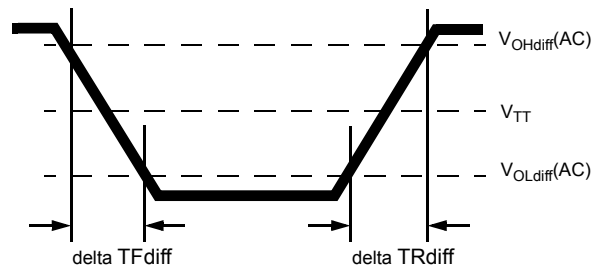

Figure 183 — Differential Output Slew Rate Definition
With the reference load for timing measurements, output slew rate for falling and rising edges is defined and measured between VOLdiff(AC) and VOHdiff(AC) for differential signals as shown in Table 78 and Figure 183.